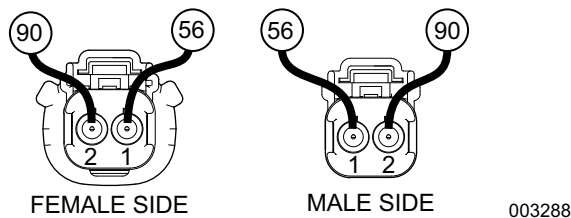

Figure 4-103. CS Choke Solenoid Connector
- Disconnect Wire 56 from the starter contactor (SC) and on Nexus units disconnect the choke solenoid (CS).
- See Figure 4-103. Connect one meter test lead to Pin 1 on the male side of the CS connector. Connect the other meter test lead to Pin 2. Measure and record the resistance.